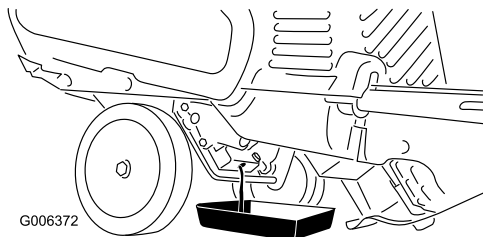

Figure 19
3. Place an oil-drain pan under the oil-drain plug, remove the plug, and tip the machine backward and drain the used oil in the pan (Figure 19).